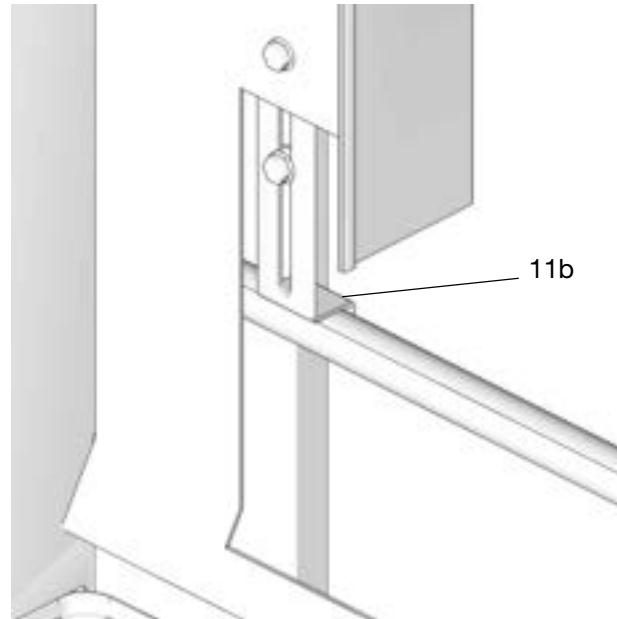

FIG. 21
3. Adjust the Z bracket (11b) to secure the meter tray location, as required (FIG. 21).